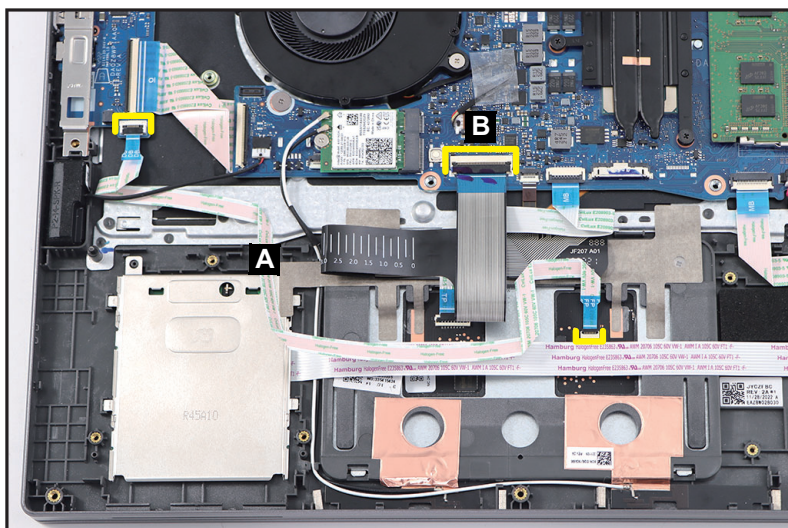

Figure 1-23. Touchpad Module Removal
1. Disconnect the fingerprint board FFC (A) from the touchpad and mainboard connectors. Then remove it from the top assembly (Figure 1-23).
2. Disconnect the keyboard FPC from the mainboard connector (B) (Figure 1-23).